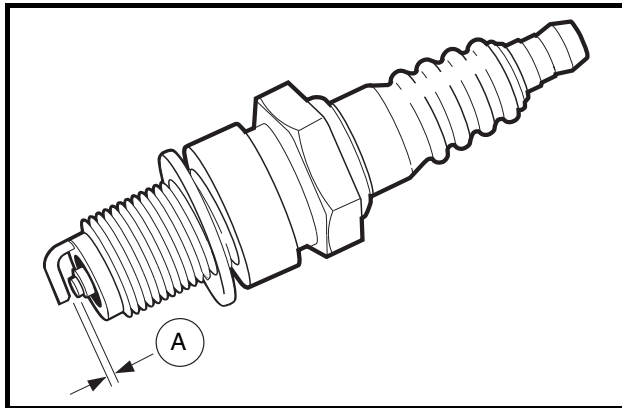

Figure 15-1 Spark Plug
Examine the plug (**Figure 15-1, Page 15-2**). The deposits on the plug base and electrode are an indication of the correct heat range and efficiency as well as a guide to the general condition of the engine, fuel and air mixture and ignition system. If all of the above conditions are proper, the spark plug should be a light brown color. There should be no bridging between the electrode and base. The electrode should not be eroded. Black color, excessive carbon, and/or a wet plug indicates that the fuel is too rich. White, burned or melted electrodes indicate the fuel is too lean or pre-igniting. Oily deposits on the plug electrode are an indication of worn rings, valve guides, cylinder wall, etc. Also examine the spark plug wire. Remove rubber boot and inspect internal spring for damage. Inspect spark plug wire for damage and be sure spring coil is securely attached to spark plug. **See following WARNING.**
2. Use a wire type gauge. Bend the outside or ground electrode so only a slight drag on the gauge is felt when passing it between the electrode. Never make an adjustment by bending the center electrode. Set gap (A) to 0.027-0.031 inches (0.69-0.79 mm) (**Figure 15-1, Page 15-2**).